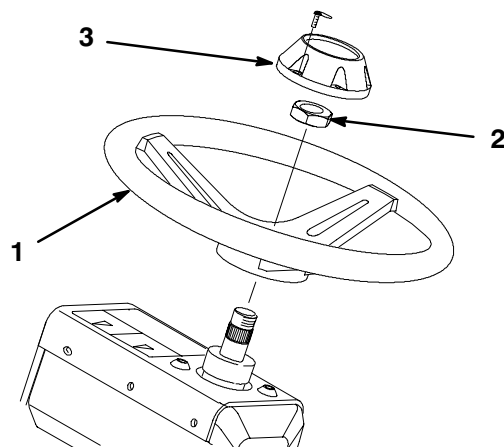

Figure 4
2. Secure the steering wheel to the shaft with the jam nut (Fig. 4) and tighten it to 35 ft-lb.
3. Install the cap to the steering wheel with the screws (Fig. 4).